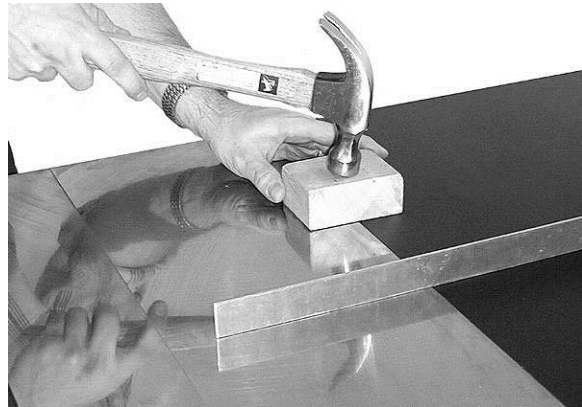

Figure 8
2. Use a rubber mallet (or a hammer and block of wood) to tap the extension table up flush against the cast iron saw table (Figure 6). Then tap down the extension table at various points along its edge where it meets the saw table, until it is level with the saw table (Figure 8).